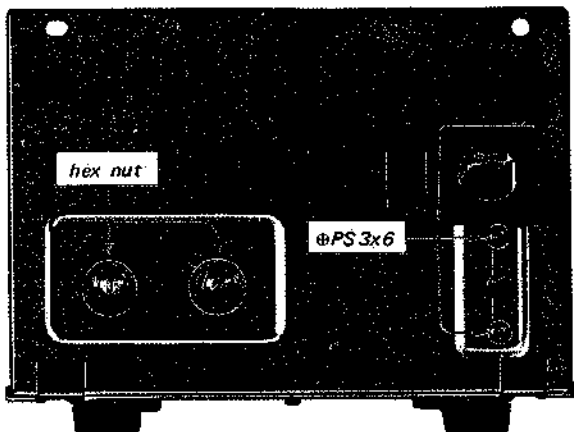

Fig. 2-5. Control and switch replacement
1. Remove the two screws ($\text{Ø}PS 3 \times 6$) securing the defective switch to the front sub-chassis as shown in Fig. 2-5.
1. Remove the hex nuts that secure the controls to the front sub-chassis as shown in Fig. 2-5.